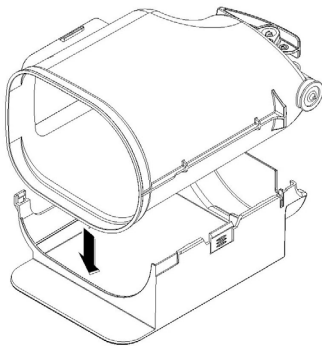

figure 11
- 1** Place the right-hand part of the recover on a surface. Place the container inside it . (see figure 11)